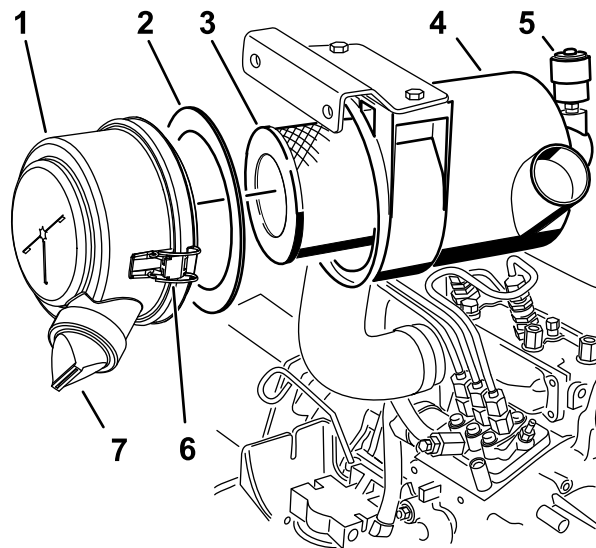

Figure 32
3. Service the air-cleaner filter (Figure 32).